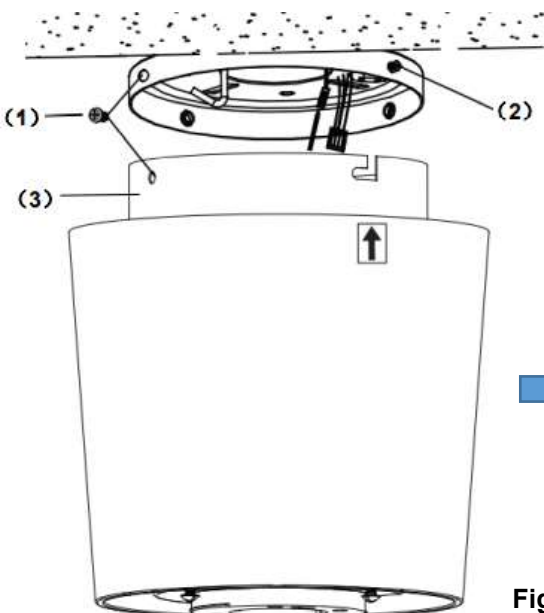

Fig. 7
- Loosen two canopy screws with star washer (2) by half thread from the mounting bracket. (For L-shape slot on canopy to be mounted).
- Loosen two canopy screws (1) and remove from the mounting bracket.
- Lift the hanging canopy (3) of the fan assembly up to the mounting bracket and let the L-shape slot on the hanging canopy go through the two canopy screws with star washer (2). (Fig.7)
- Turn the hanging canopy until it locks in place at the end section of the L-shape slot, ensure the star washer are between the hanging canopy (3) and screw head. Secure it by tightening the two canopy screws with star washer (2). (Fig.7)